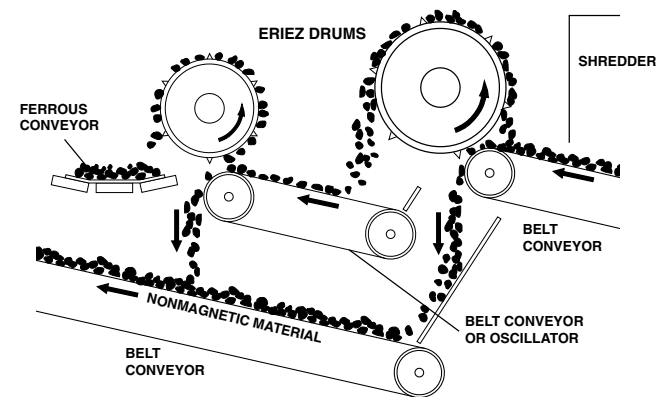
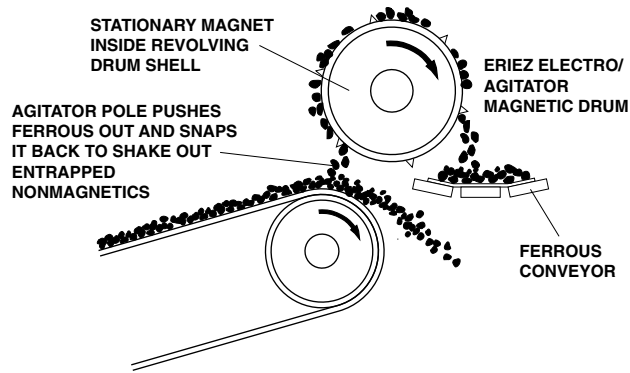

FIGURE 3
FIGURE 4
- Feed to the bottom of the drum as shown in Figure 3 for a double drum installation or as shown in Figure 4 for a single drum installation.
For the cleanest possible recovered metal without secondary shredding or air classification, a two drum installation as shown in Figure 3 is recommended.